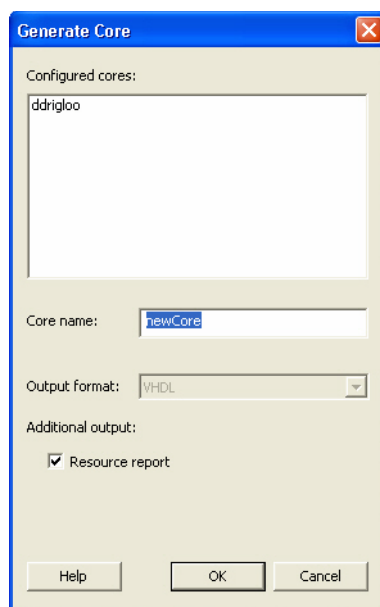

Figure 9-4 • Generate Core Window
- Once the desired configuration is selected, click the **Generate** button. The Generate Core window opens (Figure 9-4).